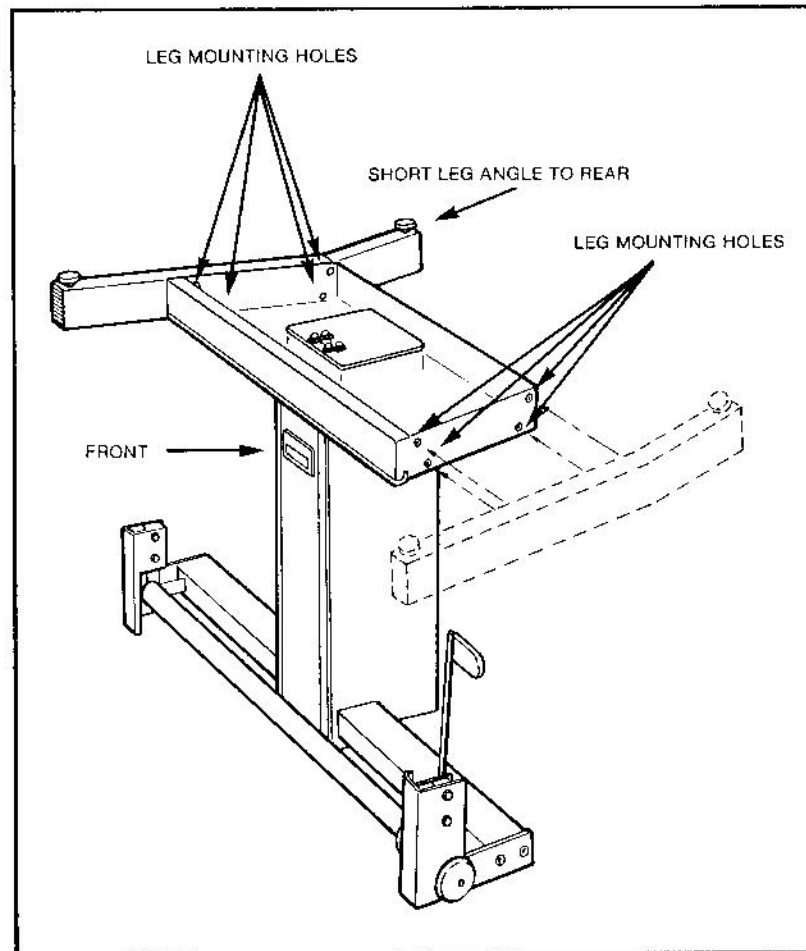

Fig 2. Attaching the Legs
7. Fasten the legs to the pedestal with the 1/4" bolts. Legs and pedestal are marked to indicate "front". The short leg angle goes to the rear (see Figure 2). Tighten the bolts with the hex wrench from the pedestal hardware bag.